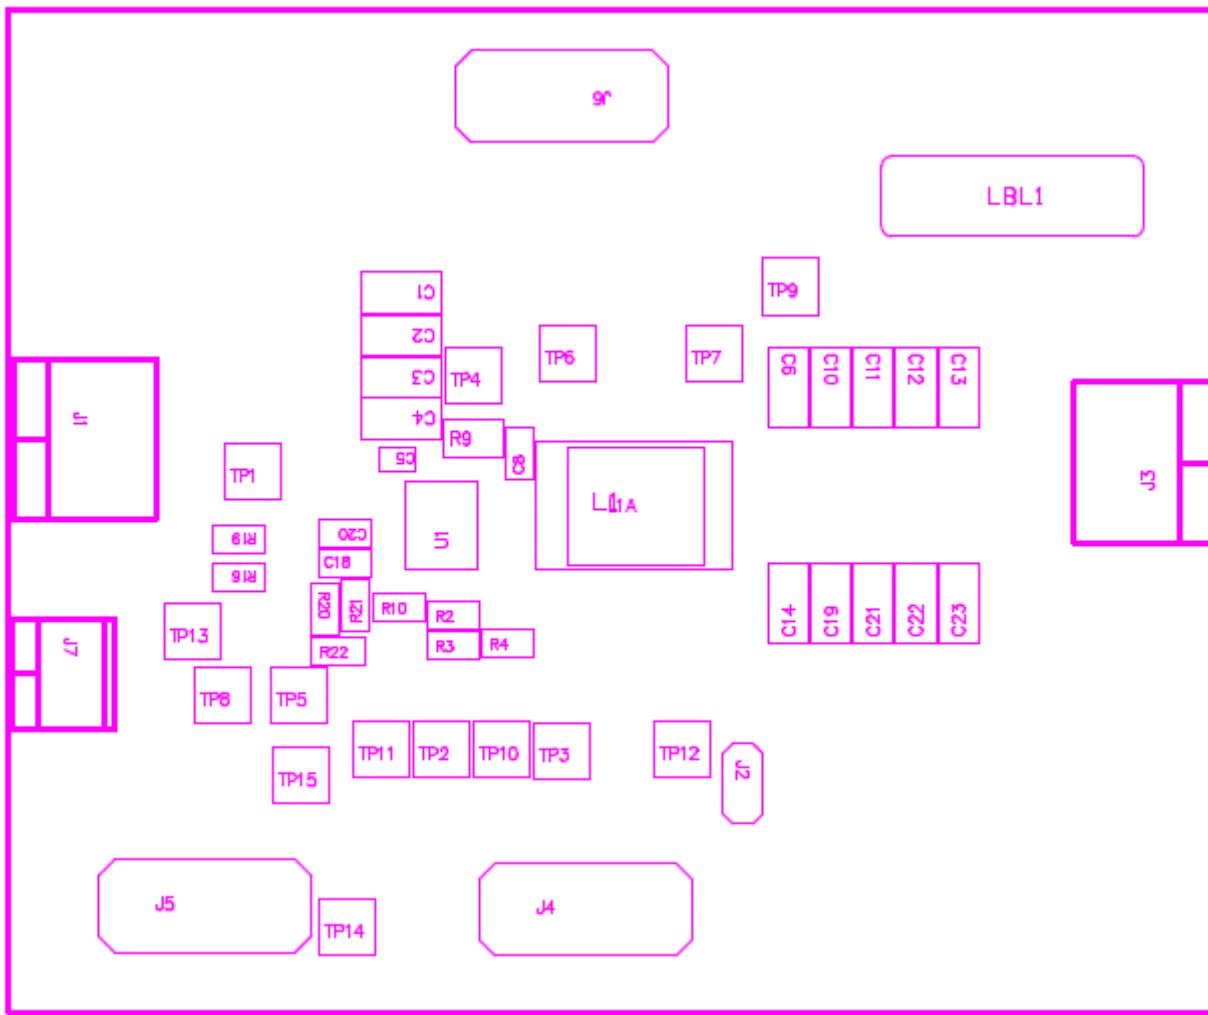

Figure 3. TPS549A20EVM-587 Top Layer for Test Setup
Voltage Source— The input voltage source VIN must be a 0 to 14-V variable-DC source capable of supplying 10 ADC. Connect VIN to J1 as shown in Figure 3.
1. Prior to connecting the DC input-source, VIN, TI recommends to limit the source current from VIN to 10 A maximum. Ensure that VIN is initially set to 0 V and connected as shown in Figure 3.
1. Set up the EVM as described in Section 5 and Figure 3.